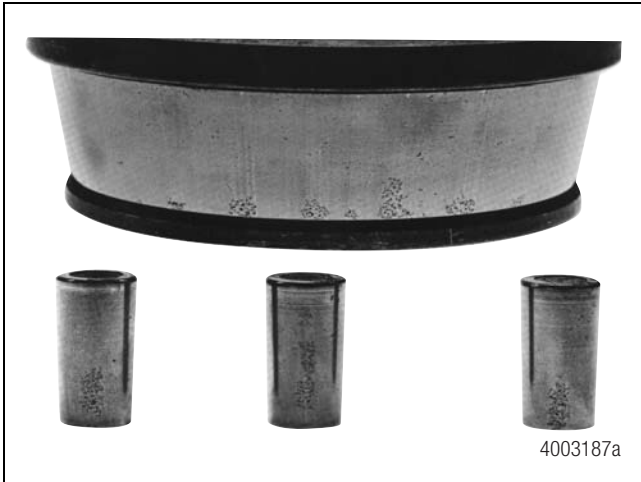

Figure 4.17
H. The races or rollers are etched. Figure 4.17.